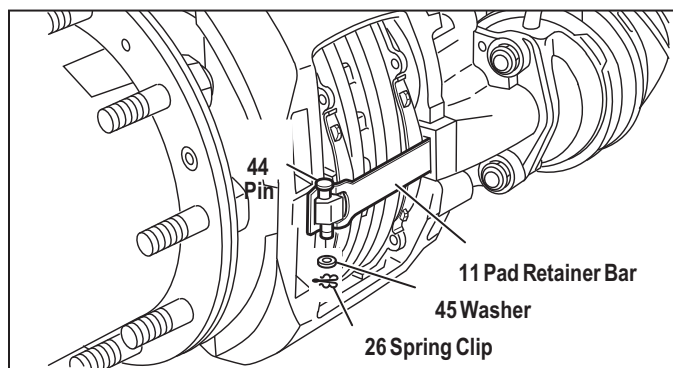

Figure 23 – Retainer Bar Removal
See *Figure 23*. While pressing down against the pad retaining bar (11), remove and retain the clip (26), washer (45) and pin (44). Remove the pad retainer bar (11). Bendix recommends that these items be replaced with new (*See available kits and parts, Section 5.0*).